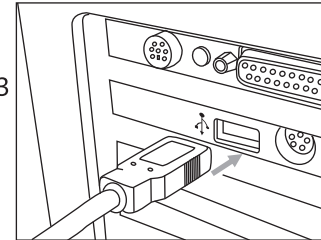

Figure 23
- Plug another end of USB wire into the interface port on PC, as shown in figure 23